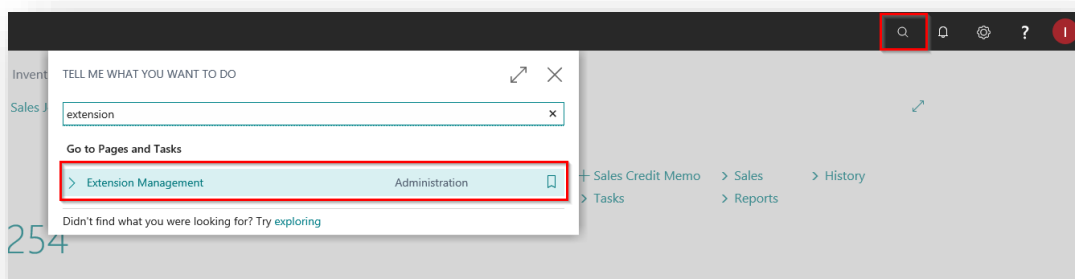

Figure 4-1
5. Open your Dynamics 365 Business Central Web Client and use the **Tell Me** to search for **Extension Management** (Figure 4-1).